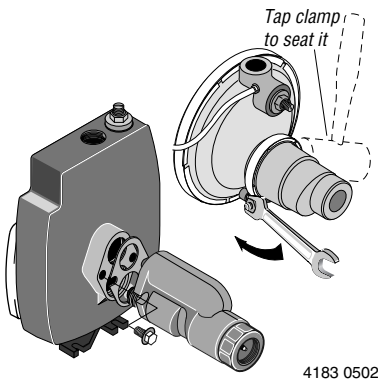

Figure 8: Install Ejector
- Step 2. Install ejector kit FP4855 with a Series 4200 pump, or kit FP4875 with a Series 4300 pump (kits are sold separately). Follow the instructions provided with the kit. Align the venturi with the top hole on the front of the pump (see Figure 8).